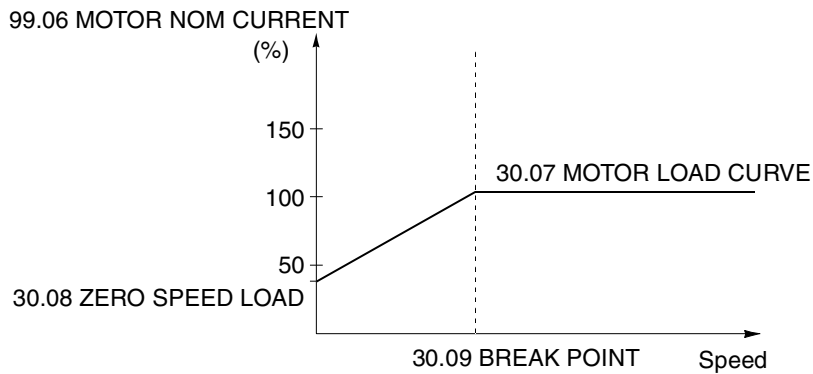

Figure 6-15 Motor Load Curve.
- Motor heating is calculated assuming a load curve (Figure 6-15). The motor will heat above nominal temperature if it operates in the region above the curve, and cool if it operates below the curve. The rate of heating and cooling is set by MOTOR THERM TIME.
This parameter defines the point at which the motor load curve begins to decrease from the maximum value set by Parameter 30.07 MOTOR LOAD CURVE to the Parameter 30.08 ZERO SPEED LOAD. Refer to Figure 6-15 for an example of motor load curve.